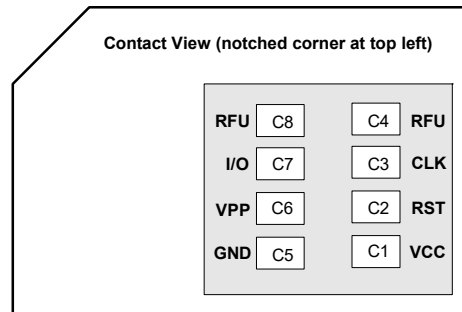

Figure 5-4: SIM card contacts (contact view)
- See Figure 5-4 on page 58 for UIM card contacts.